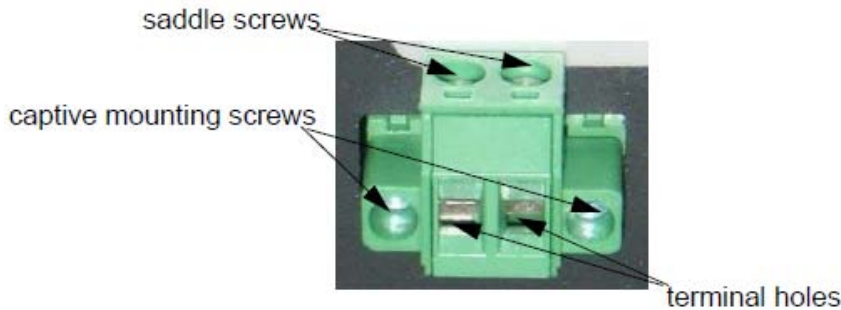

Figure 2-11. Non-Polarized Power Input
- non-polarized power unit, as illustrated in Figure 2-11.